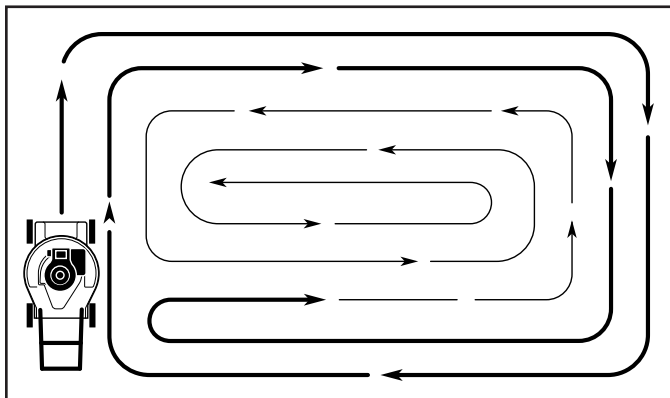

FIG. 15
- For side discharge operation, cut in a counterclockwise direction, starting at the outside of the area to be cut, in order to spread grass clippings more evenly and to put less load on the engine. To keep clippings off of walkways, flower beds, etc., make the first cuts in a clockwise direction. (See Fig. 15).